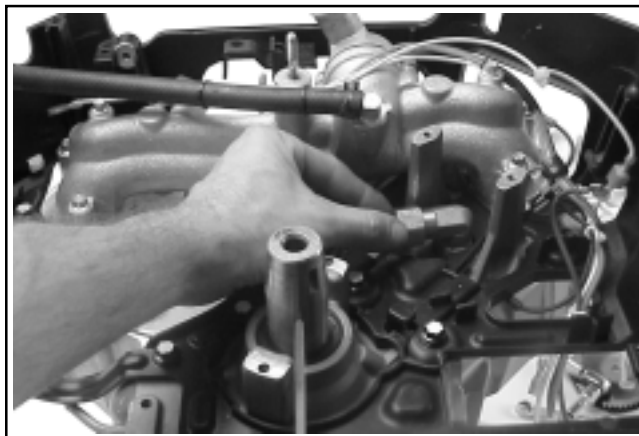

Figure 11-62. Installing Ferrule and Hex. Cap onto Fitting.
- Place a new ferrule/compression ring in the 90° fitting of crankcase and loosely install the hex. cap section onto the threads of the fitting. See Figure 11-62.